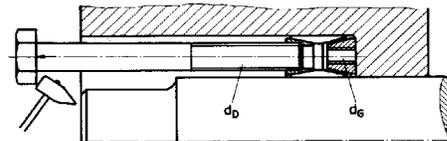

**Fig. 17: Square Drives**
- Metric hexagonal-bit socket (Fig. 17: Square Drives) for torque wrench with suitable dimension across flats (s); see Table 3: Locking Assembly™ Tightening Data.